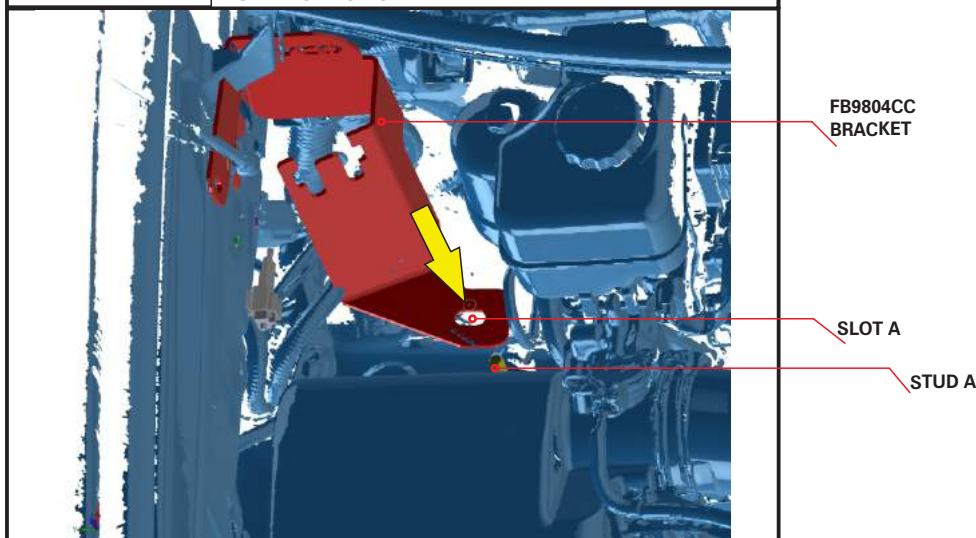

FIG. 7B CATCHCAN BRACKET INSTALLATION
3. Referring to FIG. 7B, Drop FB9804CX catchcan bracket into engine bay locating engine bay Stud A into Catchcan Bracket slot A.